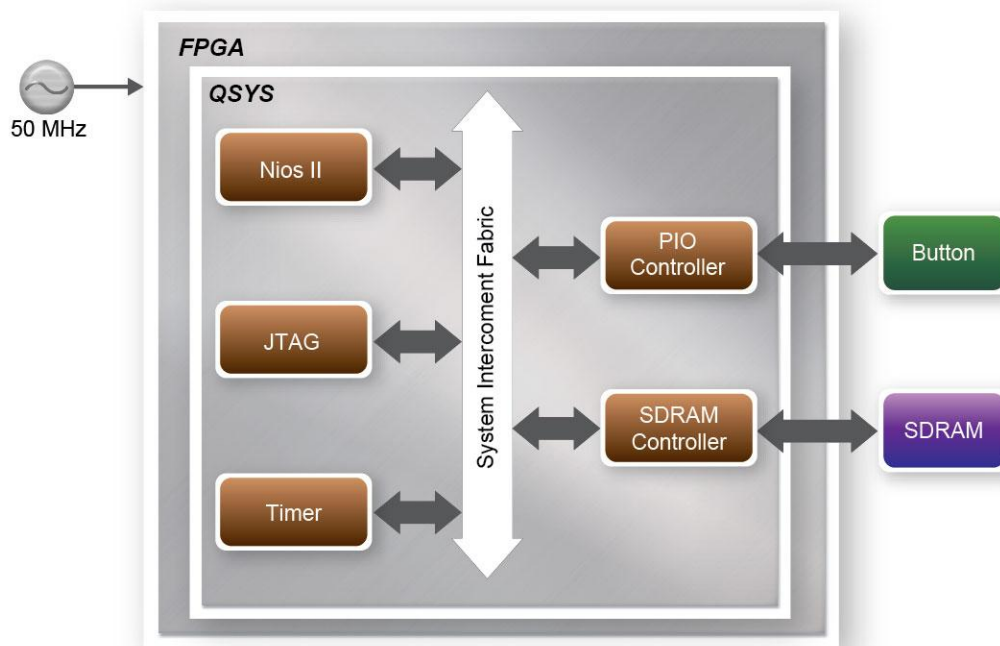

Figure 8-15 Block diagram of the SDRAM Basic Demonstration
**Figure 8-15** shows the system block diagram of this demonstration. The system requires a 50 MHz clock provided from the board. The SDRAM controller is configured as a 32MB controller. The working frequency of the SDRAM controller is 100MHz, and the Nios II program is running in the SDRAM.